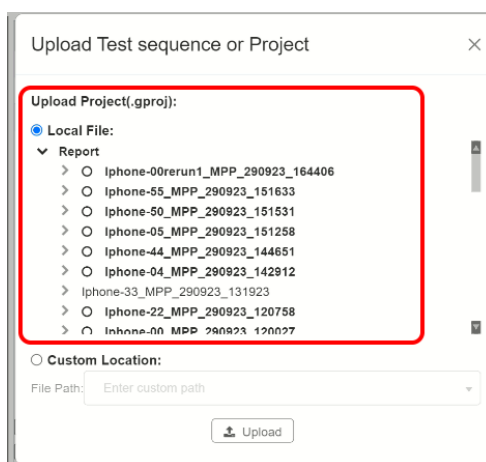

FIGURE 8.38: UPLOAD PROJECT— #2
- If the required project file (.gproj file) was saved in the local file directory, select that project file under “Local File” as shown in Figure 8.38 example below.